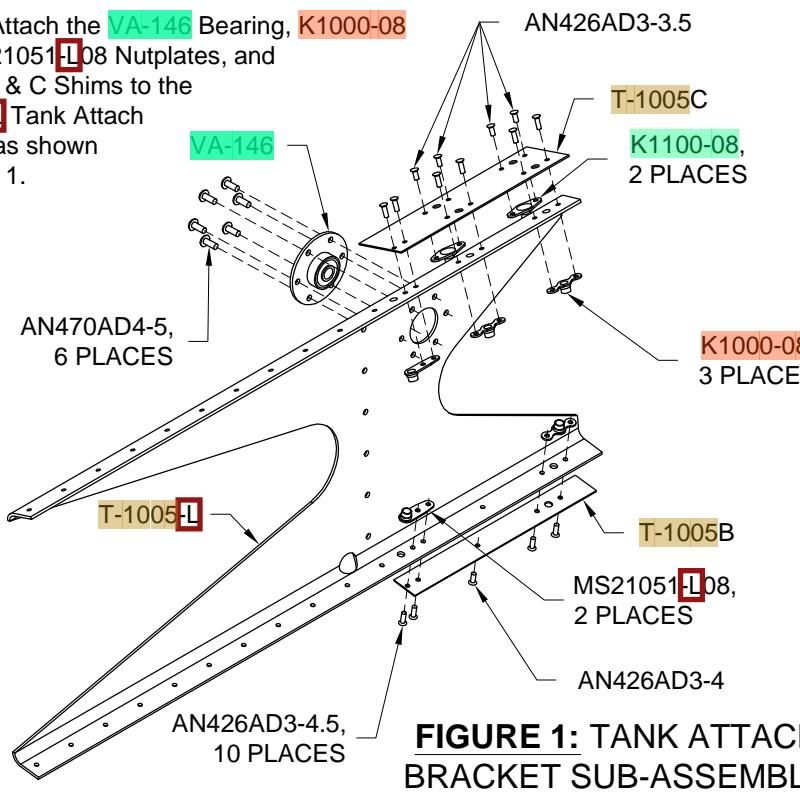

FIGURE 1: TANK ATTACH BRACKET SUB-ASSEMBLY
Step 3: Study Figure 1 until there is no question as to the position and/or orientation of each part or hardware item.
Step 4: Dimple the two #19 holes in the T-1005C Shim which will have K1100-08 Nutplates attached. Dimple the K1100-08 Nutplates and the corresponding nutplate attach rivet holes in the shim. Rivet the K1100-08 Nutplates to the shim as shown in Figure 1.
Step 5: Attach the VA-146 Bearing, K1000-08 and MS2105-08 Nutplates, and T-1005B & C Shims to the T-1005-L Tank Attach Bracket as shown in Figure 1.